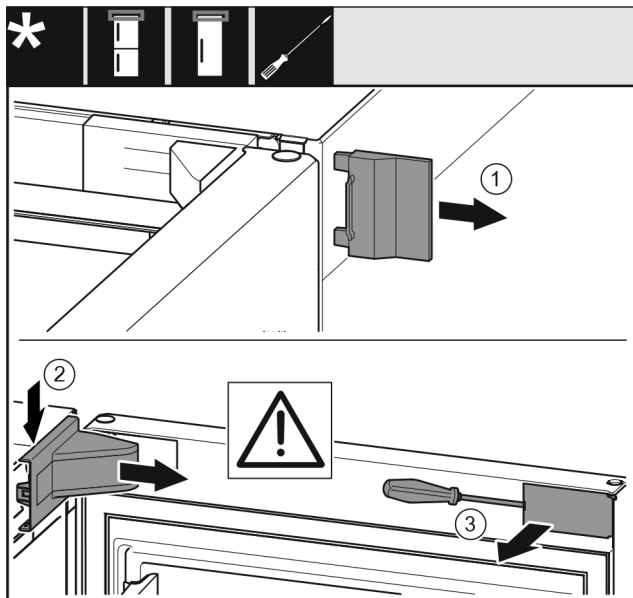

Fig. 5
- ▶ Remove the outer cover. Fig. 5 (1)
- ▶ Disengage and release the bearing bracket cover. Remove the bearing bracket cover. Fig. 5 (2)
- ▶ Unlatch the panel with a slotted screwdriver and swivel it to one side. Fig. 5 (3)